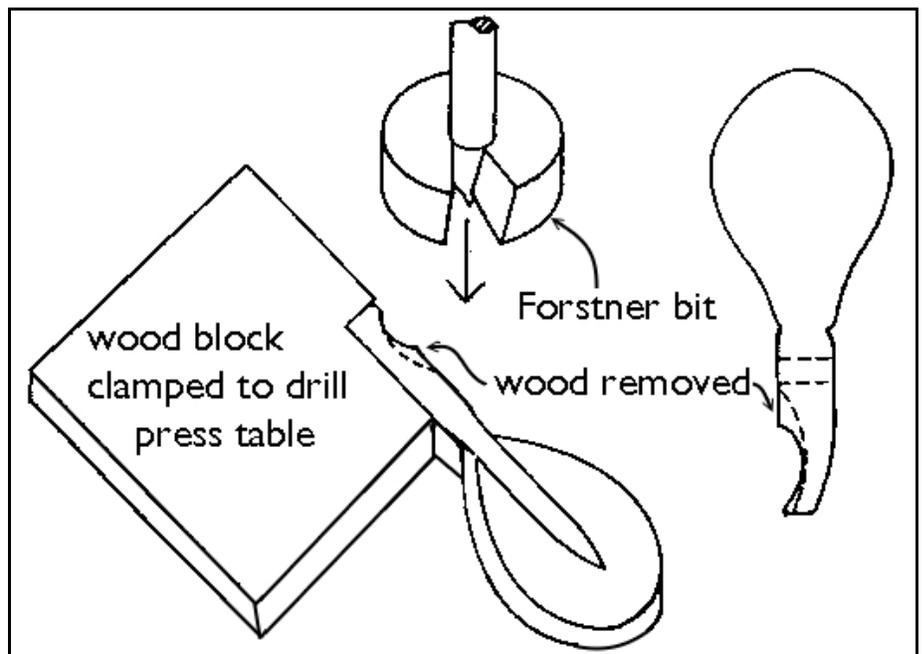

Figure 4: Removing weight from inside the tails using a Forstner bit in a drill press
**4. Cove inside of tails:** If you need to remove as much weight as possible to match light-weight original hammers, you might gain a slight benefit by removing excess wood from the coved area inside of the tails, as in Figure 4. Most brands of replacement hammers already have a generous coving here so this method is most useful when preparing completely unshaped moldings.